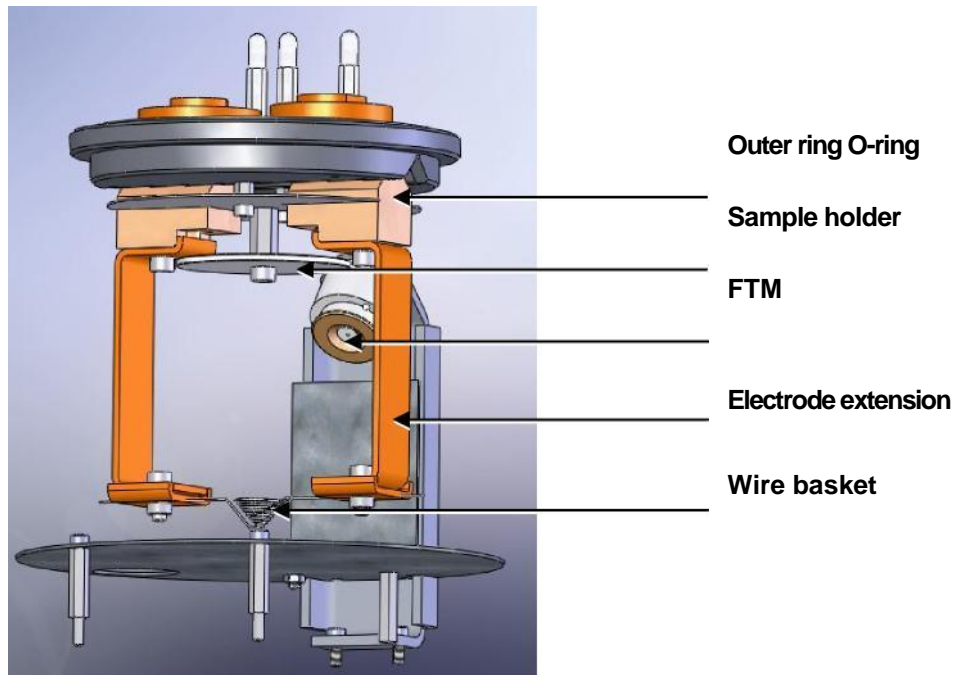

Figure 7-8. Metal evaporation insert adapted for upwards evaporation
1. Remove the two terminal clamps and replace with the electrode extensions (see Figure 7-8).
If you want to use an FTM with the metal evaporation insert adapted for upwards evaporation you will need to reposition it as shown in Figure 7-8.